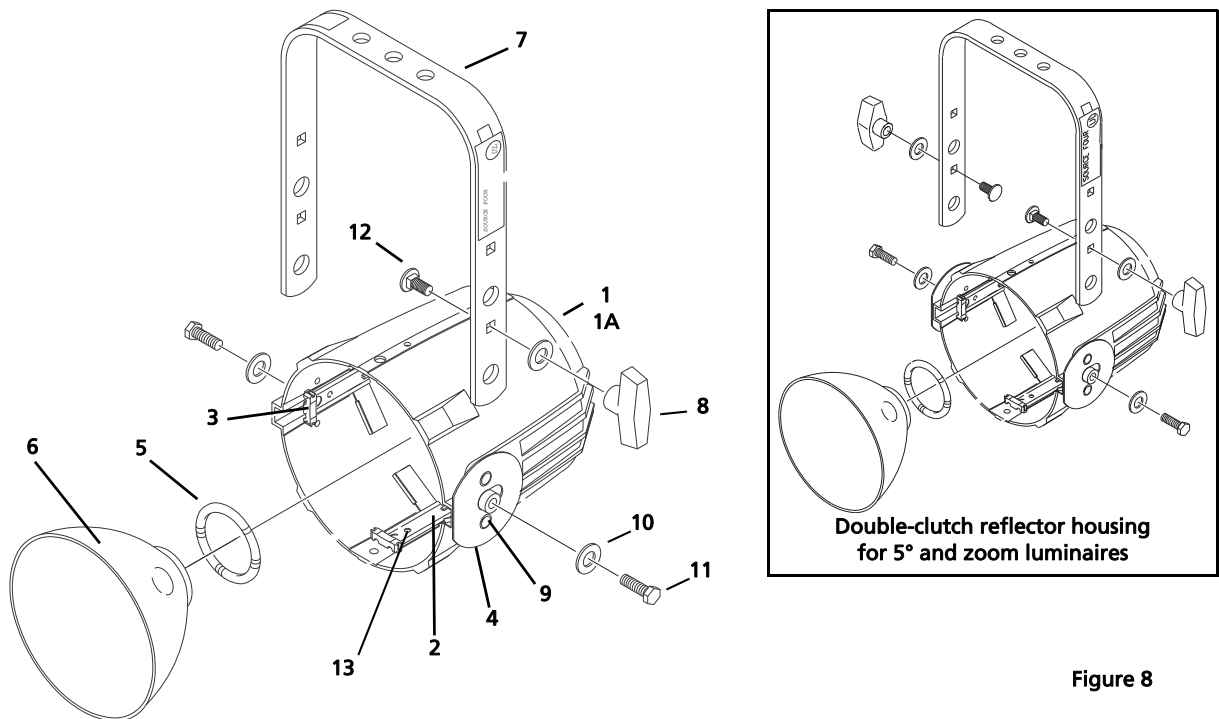

Figure 8
Note: *The following assumes that all four reflector retainer clips (2) have already been riveted to the reflector housing casting (1) and the gate bushings (3) have been installed on the retainer clips. See Figure 8.*
- 1: Place the reflector housing casting (1) on a flat work surface with the large opening facing up.
- 2: Install the reflector support spring (5) in the circular opening at the base of the casting.
- 3: Insert the reflector (6) at an angle, under any three adjacent legs of the reflector's clips.